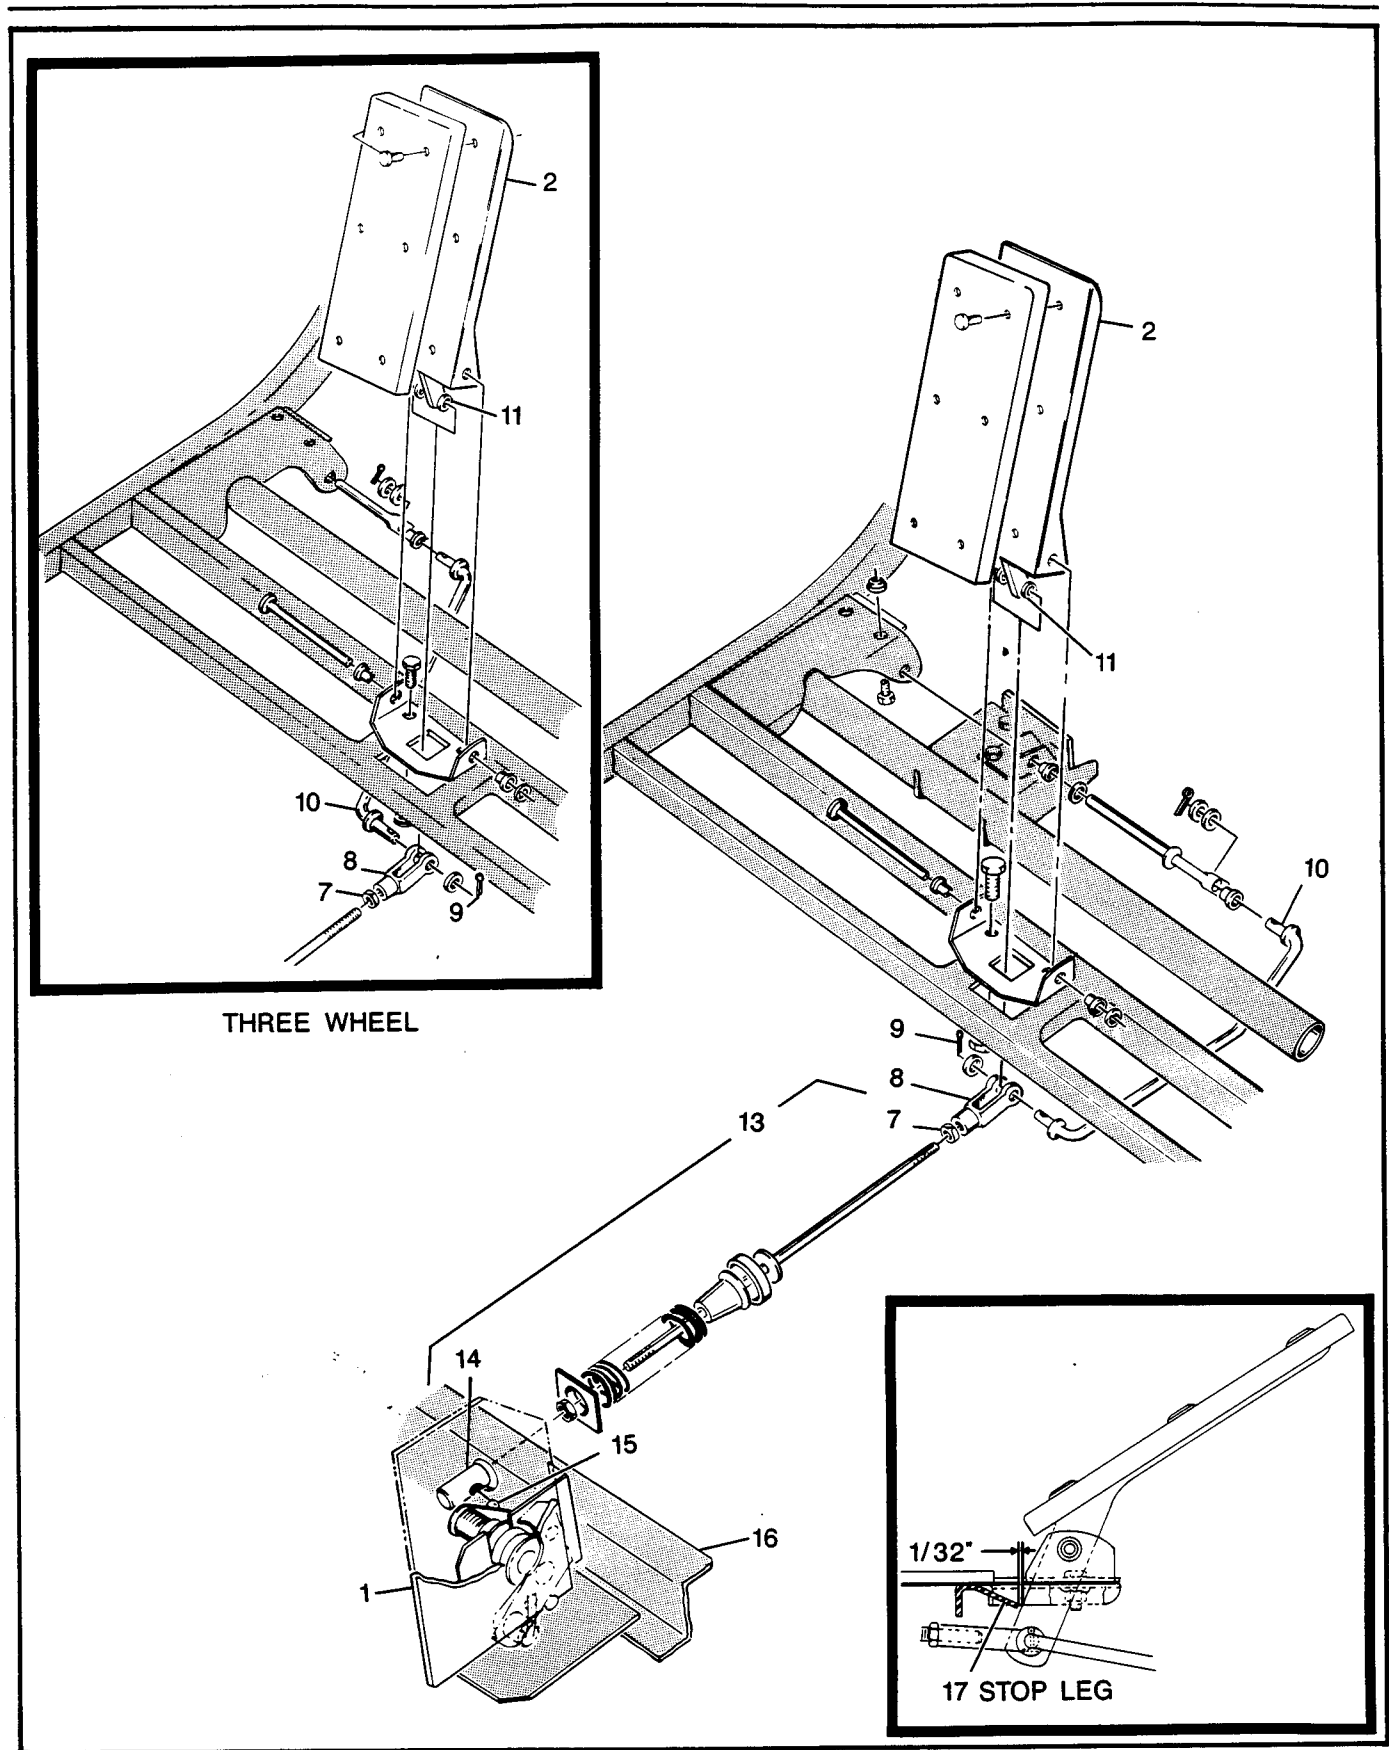

FIG. F-2 ACCELERATOR LINKAGE REMOVAL
**ACCELERATOR LINKAGE REMOVAL (Fig. F-2)**